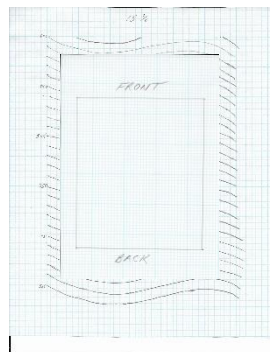

Fig 5
- 1) Impose a 100' x 150' rectangular lot (15000sf) onto the contours. Show maximum buildable area on the lot using currently required yard dimensions front - 30'; back - 20'; and 2 sides - 10' each. (Fig 5).